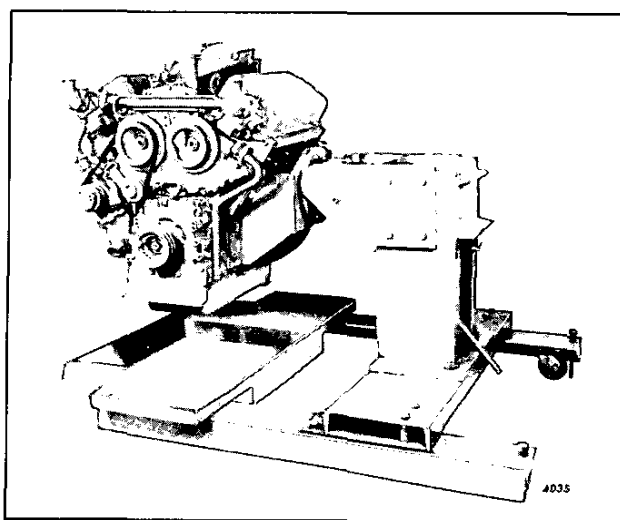

Fig. 10 – Engine Mounted on Overhaul Stand
The hydraulically operated overhaul stand (Fig. 10) provides a convenient support when stripping a cylinder block. The engine is mounted in an upright position. It may then be tipped on its side, rotated in either direction 90° or 180° where it is locked in place and then, if desired, tipped back with either end or the oil pan side up.
- Place the side of the cylinder block against the adaptor plate on the overhaul stand (Fig. 10). Use adaptor plate J 7622-01 (In-line engine), J 8683 (6V-53 engine) or J 21966 (8V-53 engine) with overhaul stand J 29109.